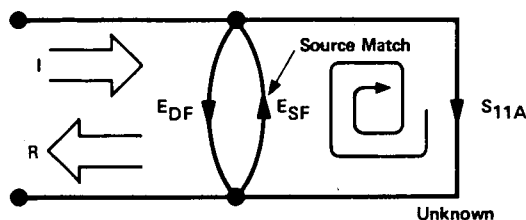

Figure 5-25
Since the measurement system test port is never exactly the characteristic impedance (50 ohms), some of the reflected signal bounces off the test port, or other impedance transitions further down the line, and back to the unknown, adding to the original incident signal (I). This effect causes the magnitude and phase of the incident signal to vary as a function of  $S_{11A}$  and frequency. Leveling the source to produce constant (I) reduces this error, but since the source cannot be exactly leveled at the test device input, leveling cannot eliminate all power variations. This re-reflection effect and the resultant incident power variation are caused by the source match error,  $E_{SF}$  (Figure 5-25).